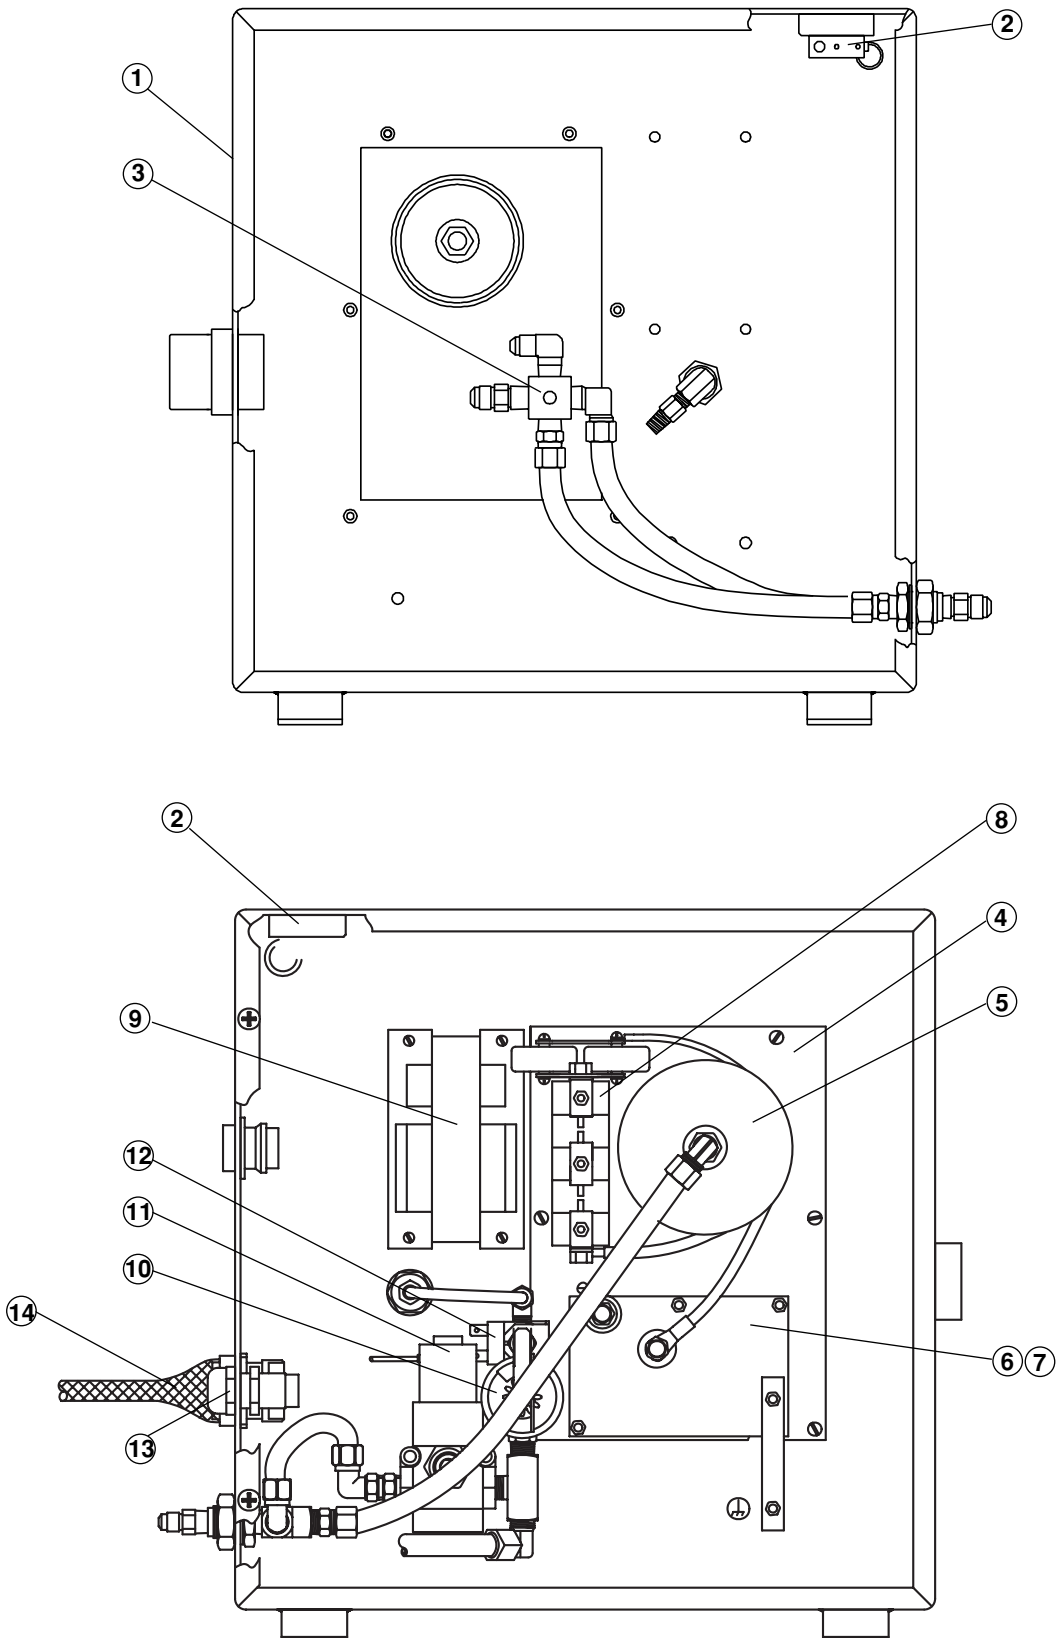

Figure 9-11 Remote High Frequency Console
* Capacitors not shown in Fig. 9-11